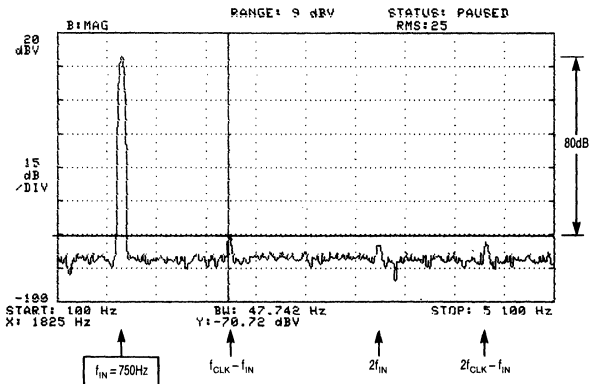

Figure 5A. Output Voltage Spectrum of 1/2 LTC1051 Operating as an Inverting Amplifier with Gain of 10, and Amplifying a 750Hz, 800mV Input AC Signal.
2. If we arbitrarily accept that "aliasing" occurs when output alias signals reach an amplitude of 0.01% or more of the output signal, then: The approximate minimum frequency of an AC input signal which will cause aliasing is equal to the internal clock frequency multiplied by the square root of the op amp feedback factor. For instance, with closed loop gain of -10 , the feedback factor is 1/11, and if $f_{CLK} = 2.6\text{kHz}$, alias signals can be detected when the frequency of the input signal exceeds 750Hz to 800Hz, Figure 5A.